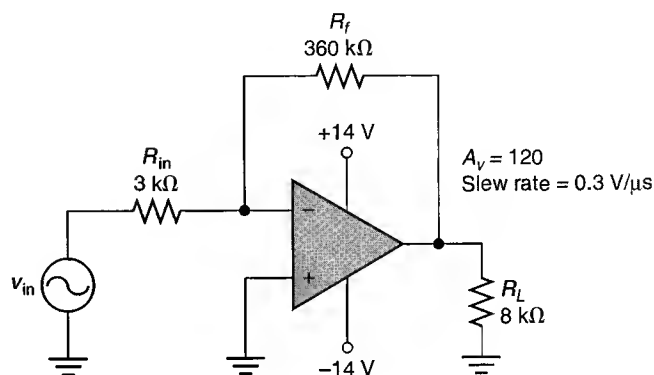

FIGURE 15.55
8. Determine the maximum allowable peak-to-peak input voltage for the amplifier in Figure 15.55.
10. The amplifier in Figure 15.55 has an output offset voltage of 960 mV. Determine the input offset voltage for the circuit.
12. Determine the maximum operating frequency for the amplifier in Figure 15.55. Assume that the circuit has a 40 mV_{PP} input signal.